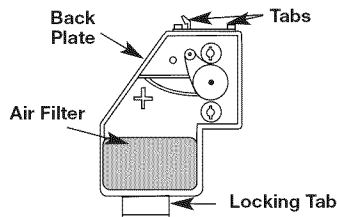

Fig. 24
2. Remove the air filter (Fig. 24).
6. Replace the filter (Fig. 24).